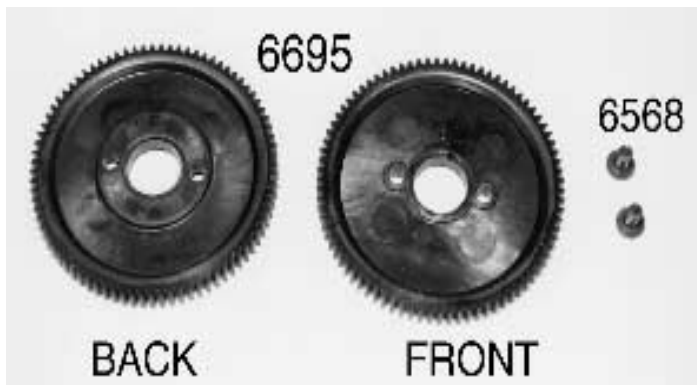

Fig. 77
□ **Figs. 77 & 78** Open bag #7-15 and remove the #6695 87 tooth 48 pitch spur gear. From bag F remove two #6568 4-40 x 3/16" BHCScrews. Mount the spur gear with the back side (which has a raised circle about the diameter of a quarter in the center) towards the torque clutch assembly. (This is the side without the molded spur gear number.) Line up the two hub mounting holes with the gear mounting holes and install the 3/16" BHCScrews. **Note:** Do your best to press on the spur gear evenly and then try and tighten the mounting screws evenly. This will help to prevent any warping of the spur gear causing gear meshing problems.